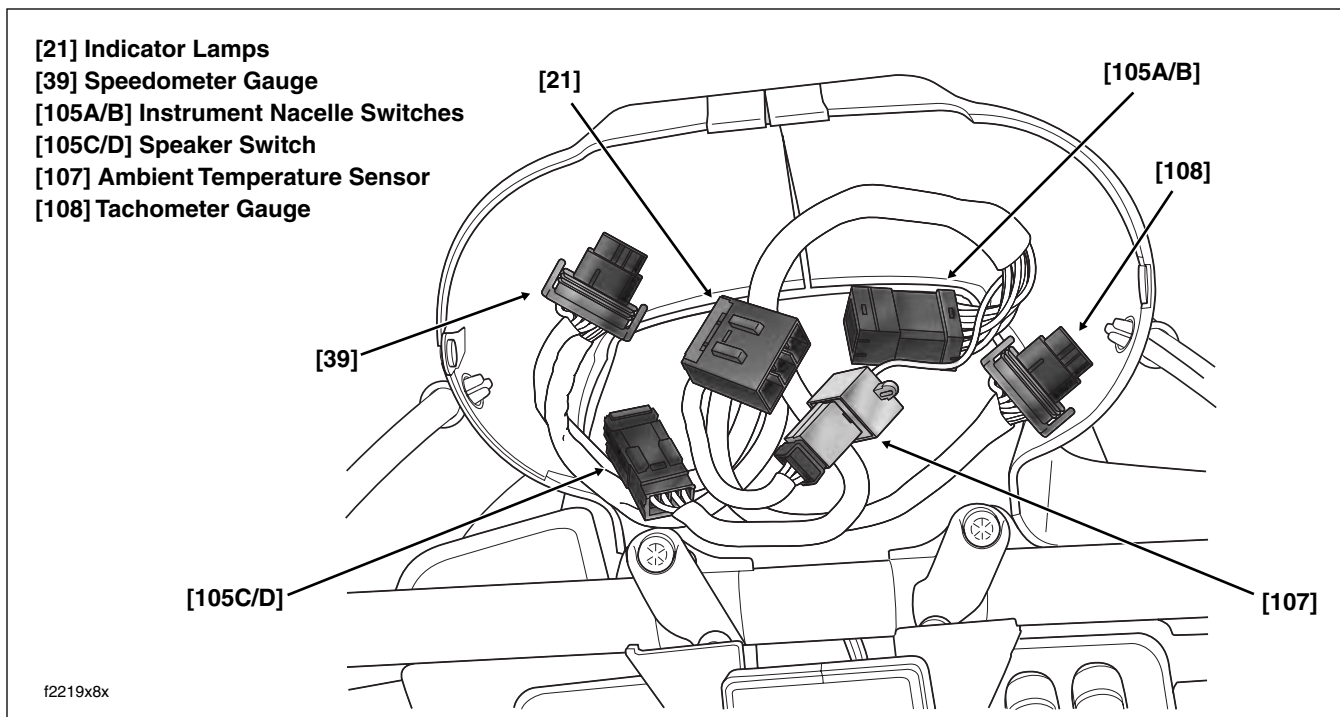

Figure 8-178. Instrument Nacelle (Bezel Removed)
8. See Figure 8-178. Disconnect instrument nacelle switches and ambient temperature sensor from interconnect harness as follows:
9. See Figure 8-178. Draw branches of interconnect harness (terminating in odometer reset switch and speedometer, tachometer, indicator lamps, instrument nacelle switch and ambient temperature sensor connectors) from instrument nacelle through tunnel of fairing bracket to front of inner fairing. Allow the interconnect harness to hang along the left side of the front fender.
4. See Figure 8-178. Connect instrument nacelle switches and ambient temperature sensor to interconnect harness as follows: